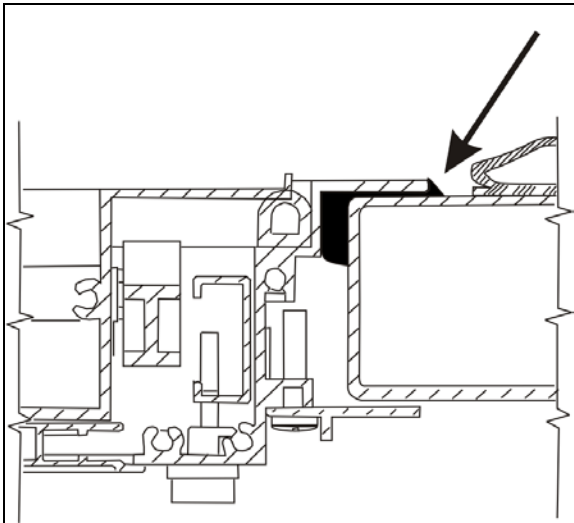

FIGURE 68: SMOOTH DOWN THE JOINT
- Open the awning window manually and smooth down the joint (Figure 68) and remove glue in excess with Sika 208.